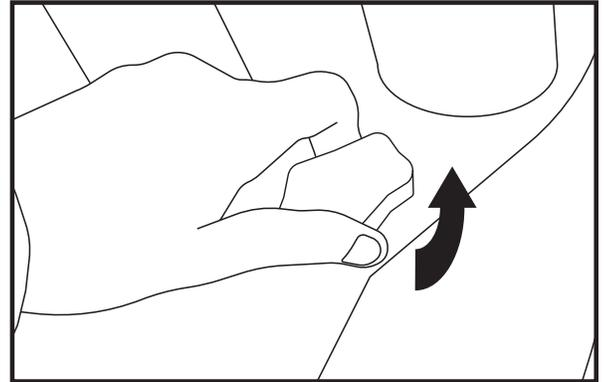

Fig. 1
1. Turn the handle and lift the cover. (Fig. 1)